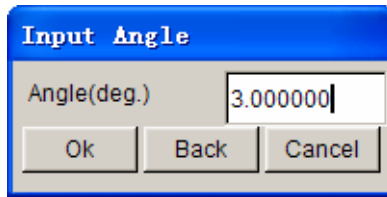

Figure 2.13: BSE preparation dialog box
1. Click the **Warpage** icon to display the Input dialog box shown in Figure 2.13.